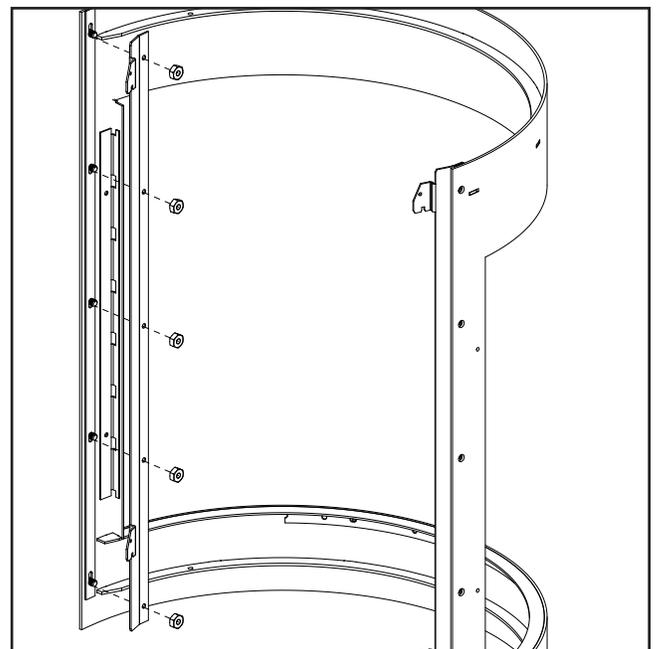

Figure 28: Door Frame Hook Removal
The door frame hooks are each attached to five (5) studs on the main door frame. Remove the nuts retaining the hooks and remove from the door frame (refer to Figure 28).